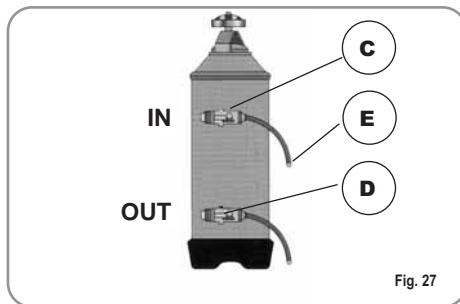

Fig. 27
- 1) Turn the machine off and place a container large enough to contain at least 5 litres under tube E (Fig. 27).